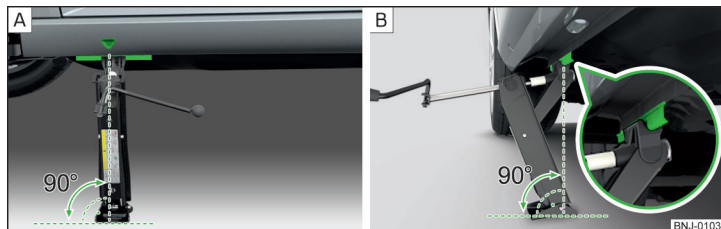

Fig. 186 Attach lifting jack
- Position the base plate of the jack with its full area resting on level ground and ensure that the jack will fit in the jacking point when raised » Fig. 186 - **A**.
- Use the crank to raise the jack until its pawl covers the jacking point » Fig. 186 - **B**.